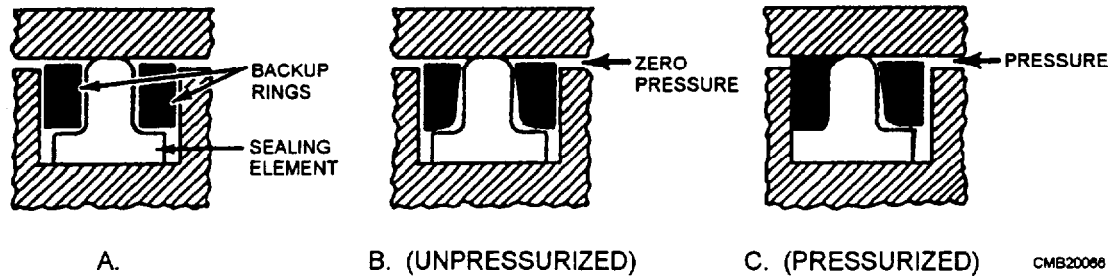

Figure 3-44.—T-seals.
**T-Seals.**—The T-seal has an elastomeric bidirectional sealing element resembling an inverted letter *T*. This sealing element is always paired with two special extrusion-resisting backup rings, one on each side of the *T*. The basic T-seal configuration is shown in figure 3-44, view A. The backup rings are single turn, bias cut, and are usually made of TEFLON™, nylon, or a combination of TEFLON and nylon. Nylon is widely used for T-seal backup rings because it provides excellent resistance to extrusion and has low friction characteristics.